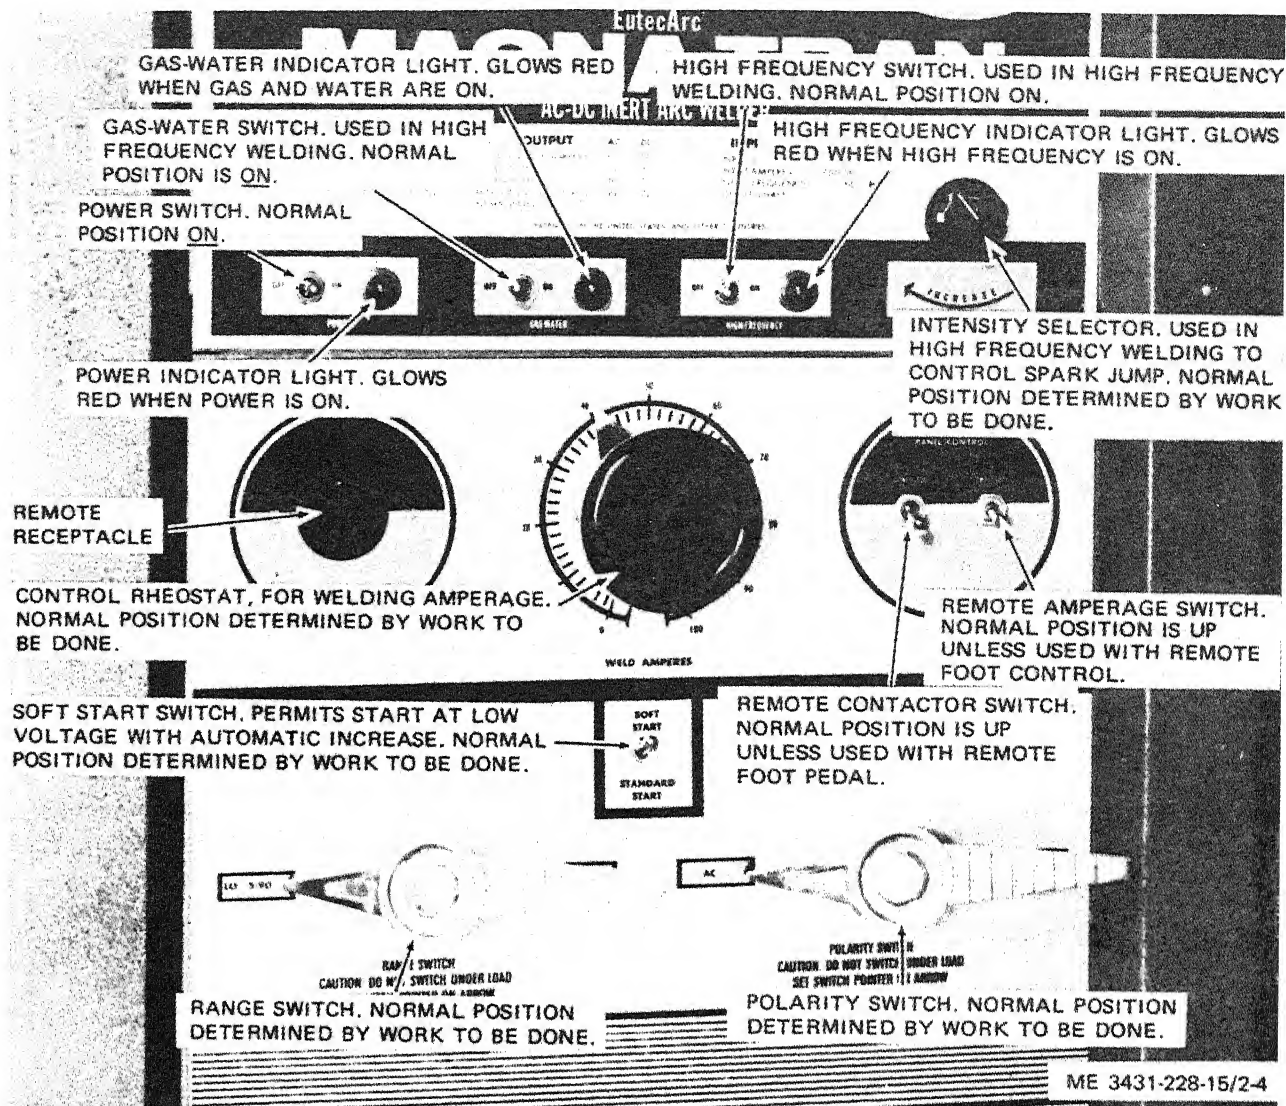
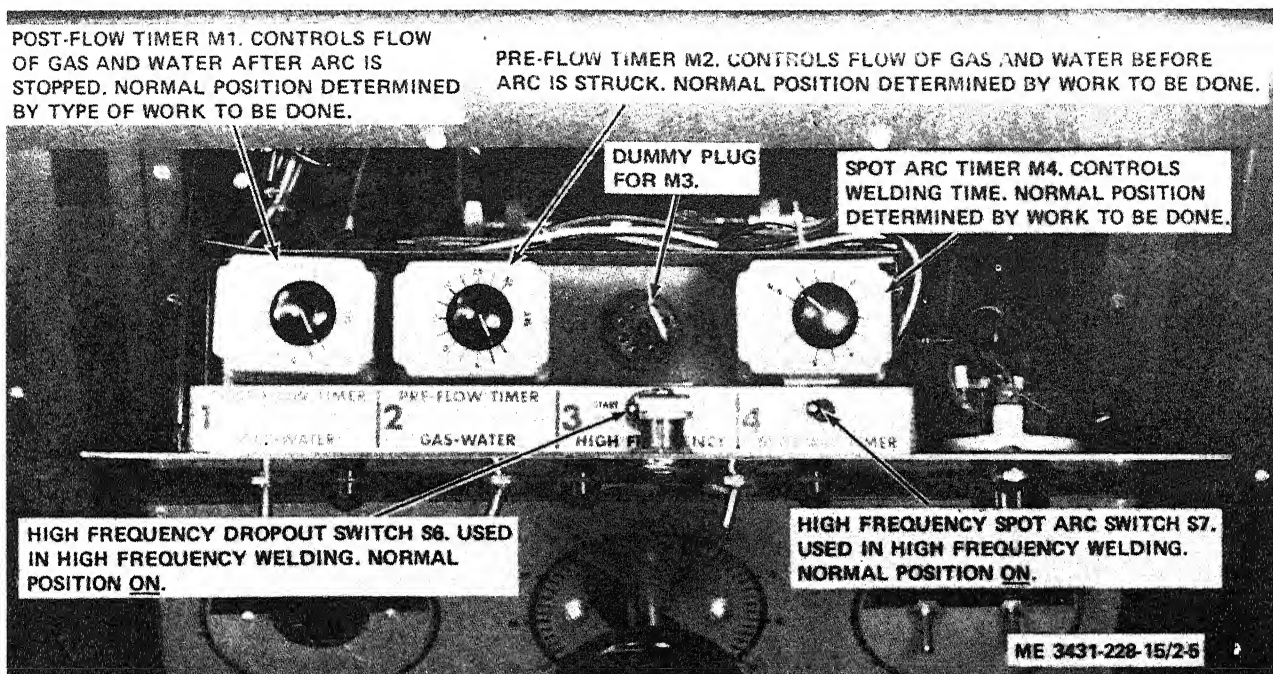

Figure 2-4. Controls and instruments, front panel.
Figure 2-5. Timer drawer, controls.
a. Figure 2-4 illustrates the front panel of the machine, which contains all operator's controls and instruments. Figure 2-5 illustrates the controls in the timer drawer.
(15) **SPOT ARC TIMER switch.** This two-position switch, located inside the high frequency drawer, (fig. 2-5) switches the spot arc timer on or off. In the OFF position, the timer is disabled.
(16) **HIGH FREQUENCY dropout switch.** This two-position switch, located inside the high frequency drawer, (fig. 2-5) permits choosing the method of starting the high frequency circuit. In the START ONLY position, operation is controlled by the pilot relay. In the CONTINUOUS position, neither the pilot relay control nor the high frequency timer will affect the high frequency dropout.
(17) *PRE-FLOW TIMER control.* This variable control is on top of the timer (fig. 2-5) and controls the length of time that gas and water flows before the arc can be struck. Time is variable from 1 to 30 seconds.
(18) *POST-FLOW TIMER control.* This control, located on top of the timer (fig. 2-5) varies the length of time that shielding gas and water will flow after
(19) *SPOT ARC TIMER control.* This control, located on top of the timer (fig. 2-5), varies the time that the timer allows the arc to be on. It is functional only when the SPOT ARC switch is not in the OFF position (para 3-16b).